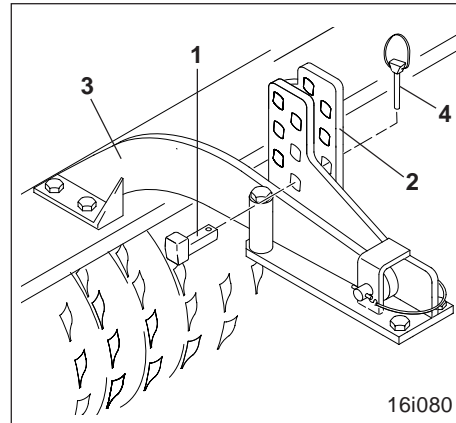
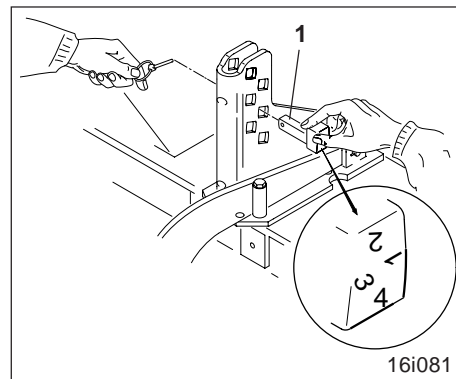

Fig. 7.8
Fig. 7.9
To set the working depth, lift the rotary cultivator slightly using the tractor's hydraulic system and insert the depth setting pins (Fig. 7.8/1) into the desired hole of the adjustment block (Fig. 7.8/2) above the mounting arms (Fig. 7.8/3) and secure using linch pins (Fig. 7.8/4).
**When re-inserting them, grasp the depth-setting pins (Fig. 7.9/1) in such a way, that your hand never comes between the pin and the mounting arm.**
The depth setting pins have a square head, the sides of which are at different distances to the centre of the pins. These sides are marked with the numbers "1 – 2 – 3 – 4" (see Fig. 7.9). It must be ensured that the depth setting pins (Fig. 7.8/1) rest in the same position (bearing the same number) on all mounting arms (Fig. 7.8/3).
**Always secure the depth setting pins using linch pins (Fig. 7.8/4) after every adjustment.**